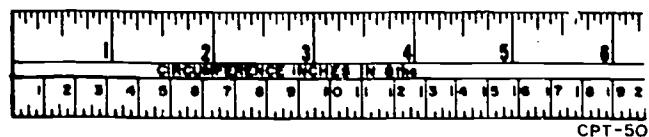

Figure 1-27. Circumference rule.
**Circumference rule.** The circumference rule shown in figure 1-27 provides a "shortcut" method for computing the circumference of a circle. This rule is available in 36- and 48-inch lengths. The upper edge is graduated in inches in the same manner as a regular steel rule, but the lower edge is graduated quite differently. The lower edge will give you the approximate circumference of any circle within the range of the rule. The circumference scale is equivalent to the diameter times 3.1416. You should remember the formula for finding the circumference of a circle ( $C = \pi d$ ). Notice in figure 1-27 that the reading on the lower edge directly below the 3-inch mark is a little less than  $9\frac{1}{2}$  inches. This reading is the approximate circumference of a circle with a diameter of 3 inches.